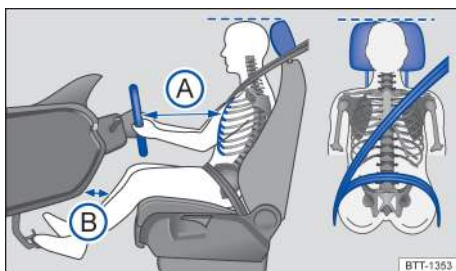

Fig. 21 Proper safety belt positioning and head restraint adjustment. The driver should never sit closer than 10 inches (25 cm) from the steering wheel.
- Adjust head restraints so that the upper edge of the head restraint is at least at eye level or higher. Position the back of your head as close as possible to the head restraint → fig. 21 (dotted line).
- Adjust the steering wheel so that there are at least 10 inches (25 cm) between the steering wheel and your breast bone → fig. 21 (A), → page 103, Steering wheel. When adjusting the proper distance to the steering wheel, grasp the top of the steering wheel with your elbows slightly bent.
keeping your knee(s) slightly bent. The distance to the instrument panel in the knee area must be at least 4 inches (10 cm) → fig. 21 B.